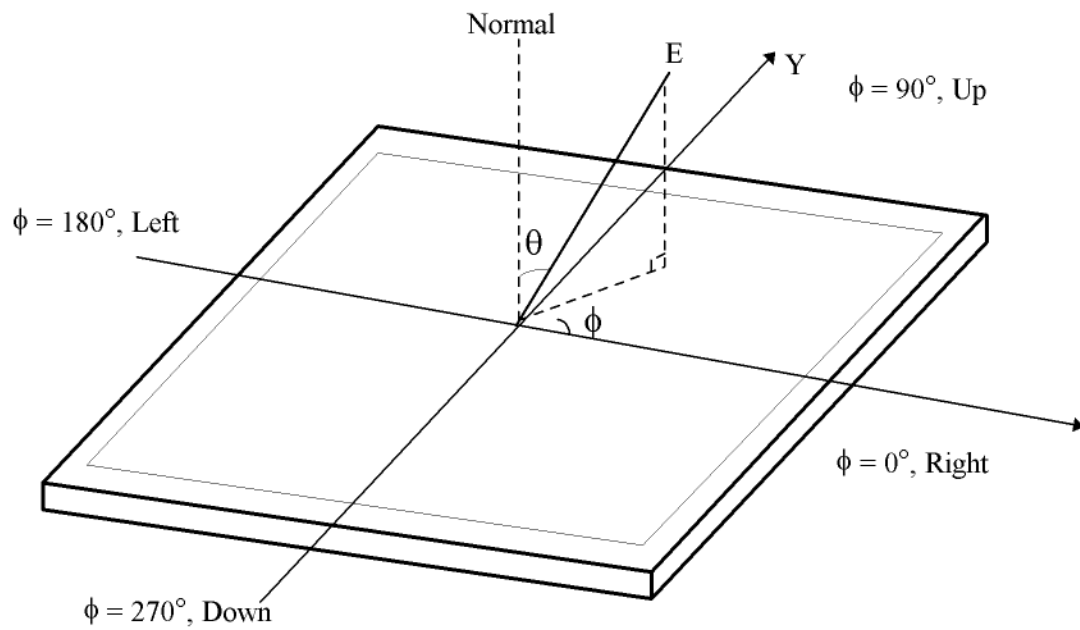

FIG. 4 Viewing Angle
6. Viewing angle is the angle at which the contrast ratio is greater than 10. The angles are determined for the horizontal or x axis and the vertical or y axis with respect to the z axis which is normal to the LCD module surface. For more information, see the FIG. 4.